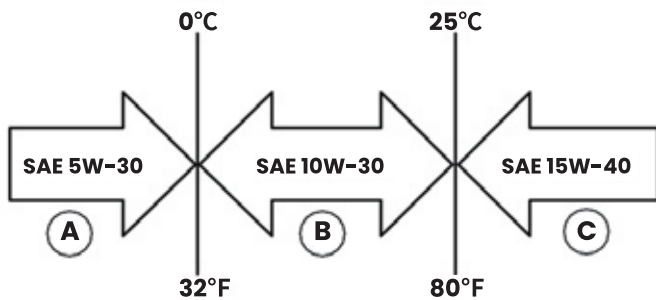

Figure 11 : Recommended Oil
1. Only use the engine oil specified in Figure 11.
7. Select the proper engine oil as specified in Figure 11.